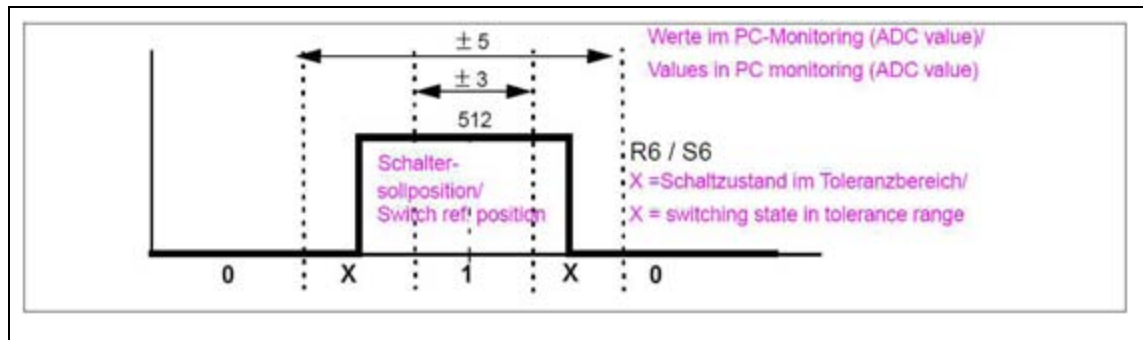

Fig. 12: Switching hysteresis S6
- Check the switching hysteresis of the reference switch S6 according to (Fig. 12 / p. 47).